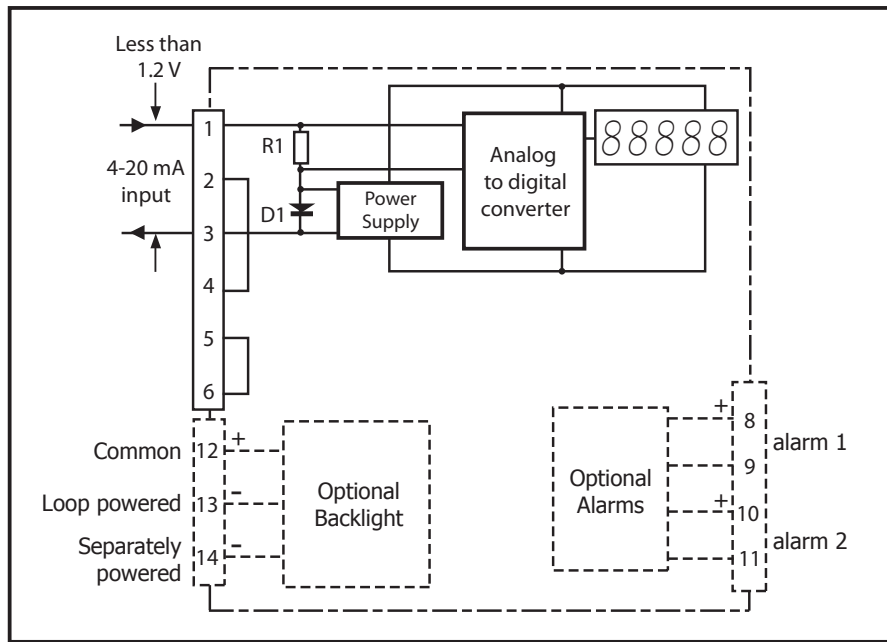

Figure 1 Indicator Block Diagram
*Figure 1* shows a simplified block diagram of the I.S. Field Display. The 4...20 mA input current flows through resistor R1 and forward biased diode D1. The voltage developed across D1, which is relatively constant, is multiplied by a switch mode power supply and used to power the instrument. The voltage developed across R1, which is proportional to the 4...20 mA input current, provides the input signal for the analog to digital converter.